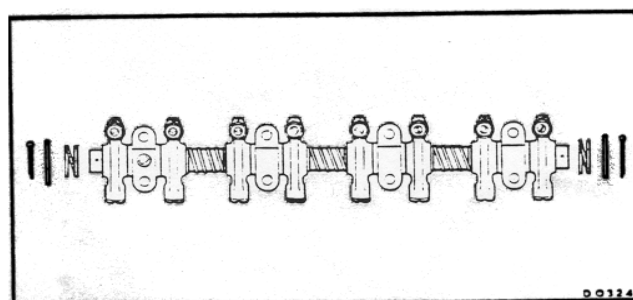

Fig. 3
8. Fit the remaining components to the shaft in the positions shown in Fig. 3.